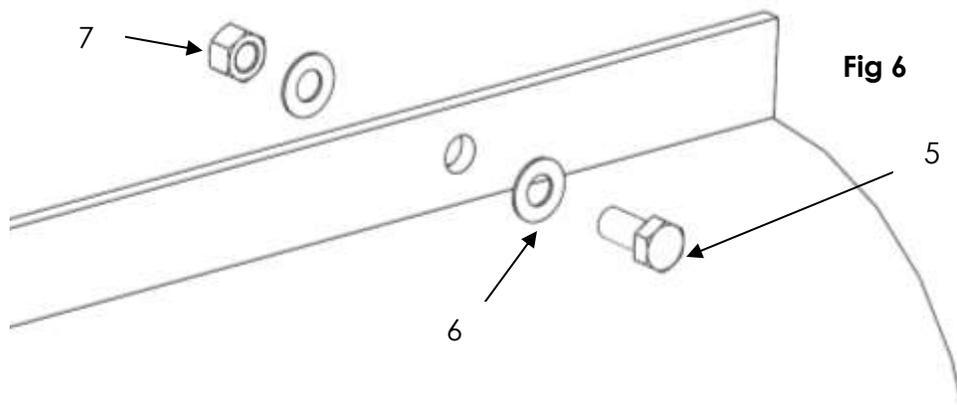

Fig 6
When inside the main body assembly, remove the telescopic adjustment stop (5) from the tube shown in **Fig 6**. Once removed, please physically exit the main body assembly yourself.